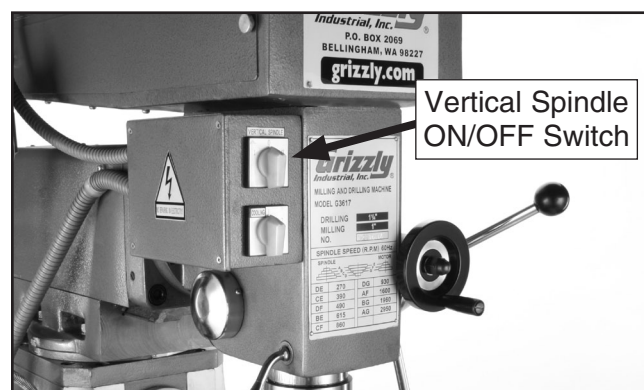

Figure 18. Vertical spindle ON/OFF switch.
3. Using the ON/OFF switch shown in **Figure 18**, turn the spindle **ON** to the appropriate setting, based on the cutting tool setup.